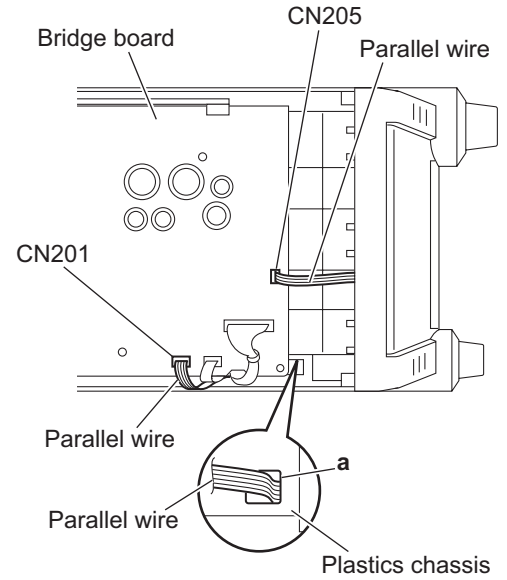

Fig.5
(3) From the top side of the main body, disconnect the parallel wires from the connectors (CN201, CN205) on the bridge board. (See Fig.5.)
When reassembling, pass the parallel wire through the hole a on the plastics chassis before connecting the parallel wire to the connector CN201 on the bridge board. (See Fig.5.)